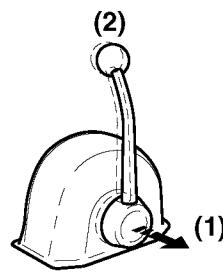

Figure 17
When the handle is pulled out (**Figure 17, (1)**), the engine speed can be controlled without engaging the clutch. The clutch remains in NEUTRAL, no load position. Turn the knob (**Figure 17, (2)**) counterclockwise to move the handle or clockwise to lock the handle.